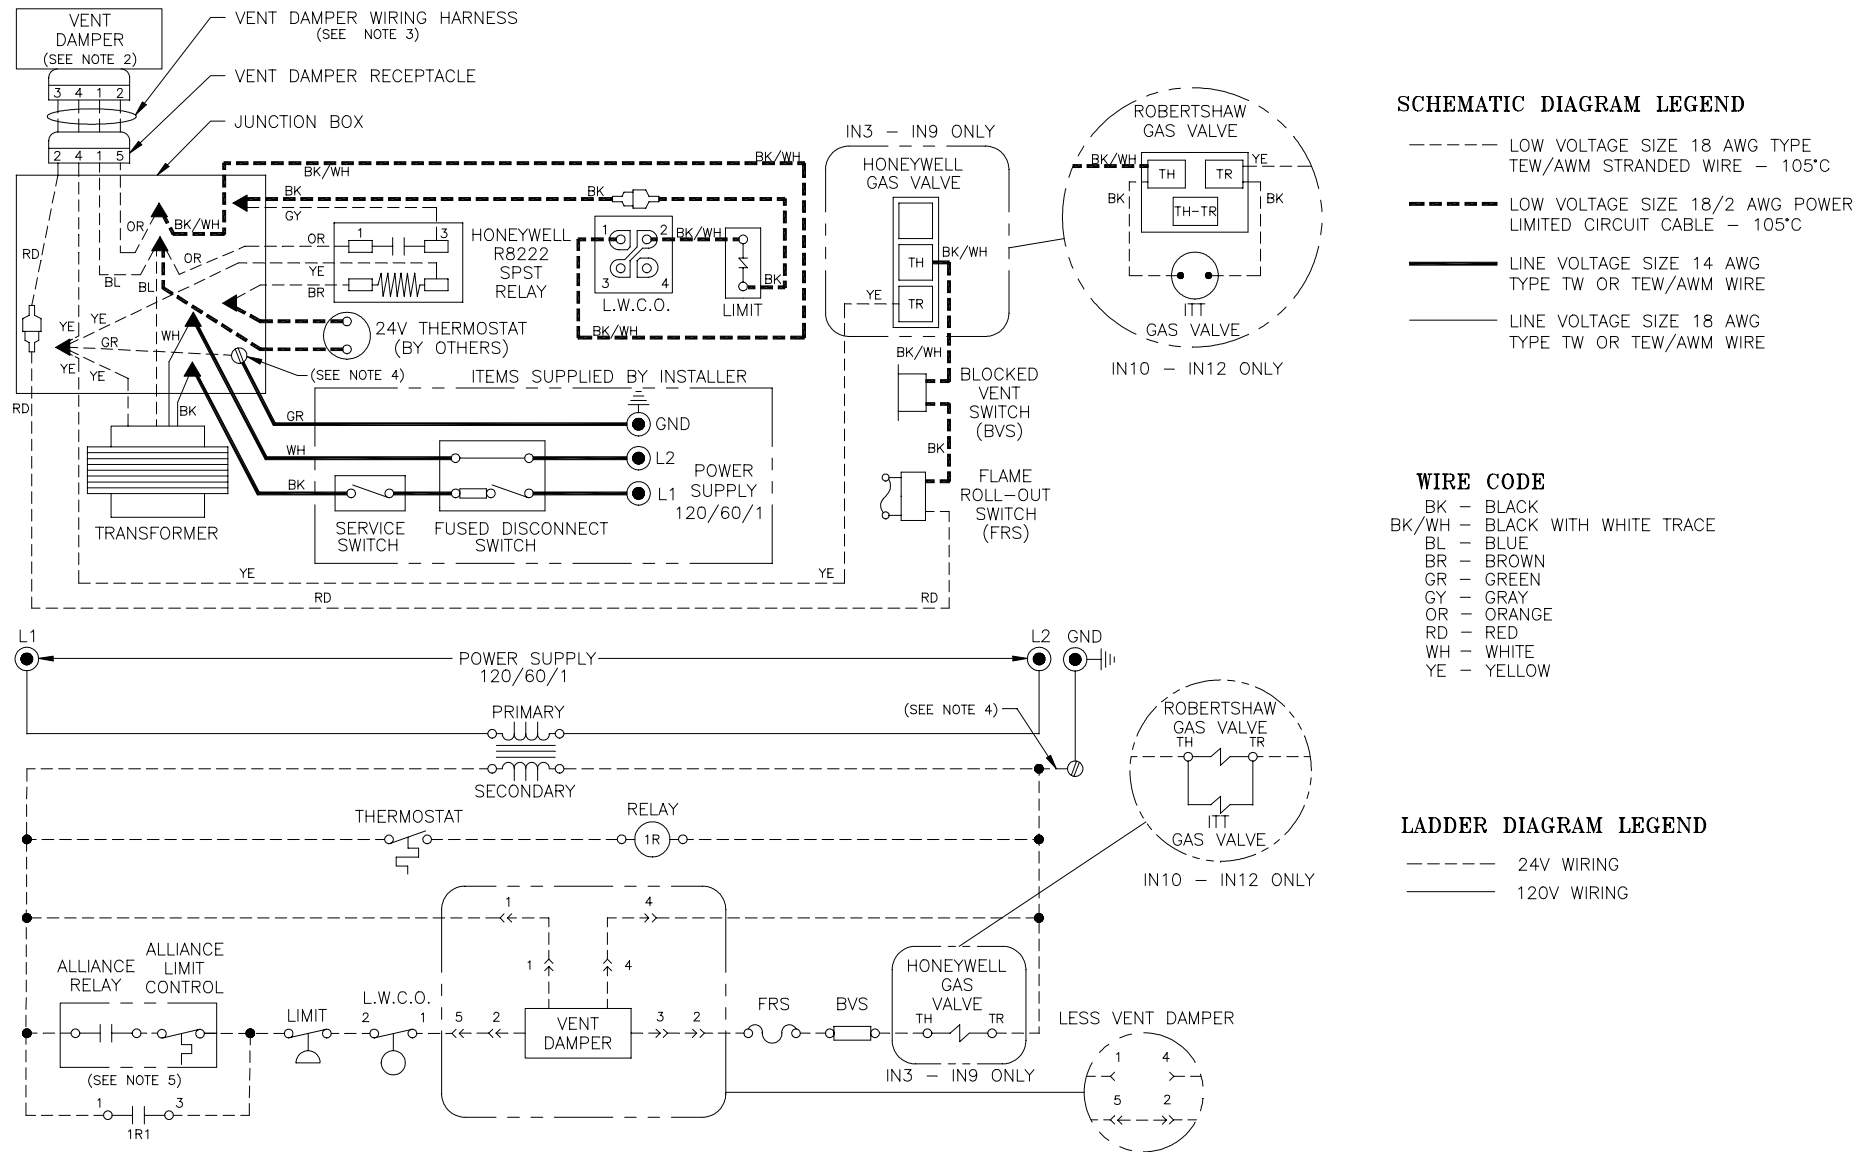

Figure 38: Wiring Diagrams, Steam, Continuous Ignition (Standing Pilot), Float Low Water Cutoff
K. Steam Boiler with Continuous Ignition (Standing Pilot) and Float Low Water Cutoff. See Figure 38.